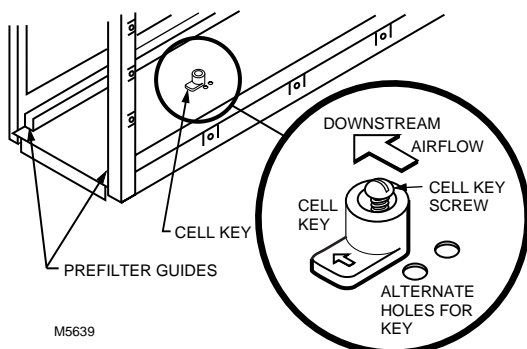

Fig. 27. Position of cell key determines orientation of cell. Arrow on key must point downstream.
2. Loosen the screw holding the cell key in place. See Fig. 27.